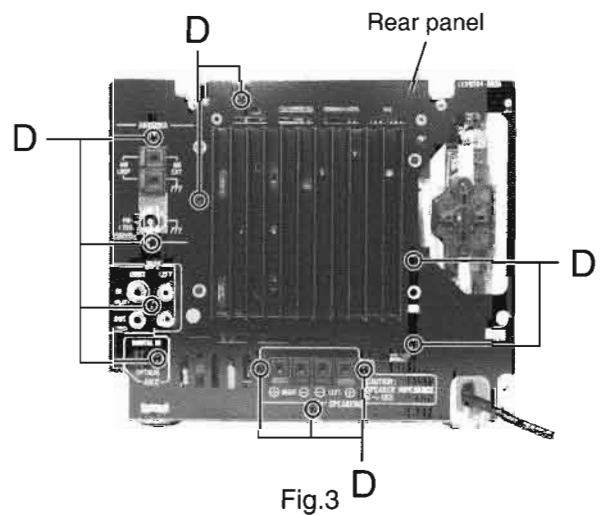

Fig.3
■ Removing the rear panel (See Fig.3 to 5)